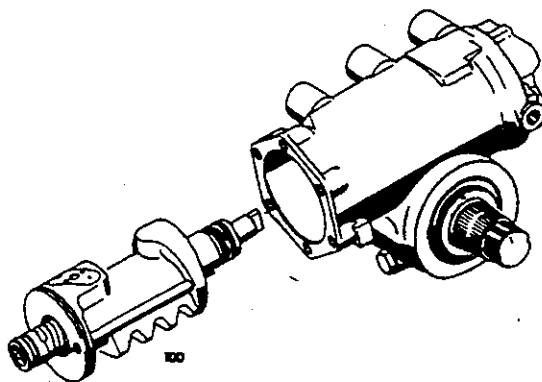

Fig.10
- 7.1 Draw piston (100) out of housing (1) together with worm (151), turning the steering drop arm which is still mounted on the sector shaft (80) at the same time (*Fig.10*).